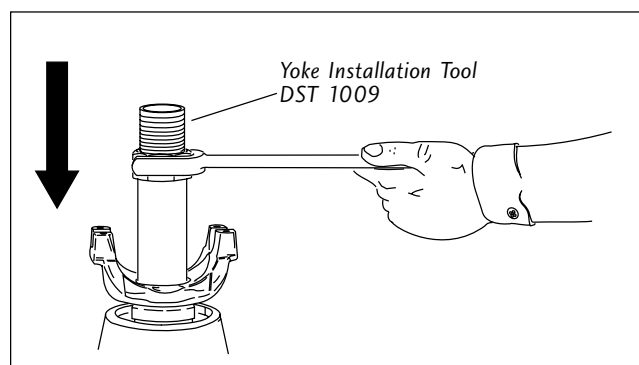

Figure 7
11. Install end yoke onto pinion without seal, to allow proper setting of bearing preload. Torque pinion nut to 900-1200 Lb-Ft(1,220-1,627 N-m) See Figure 7.